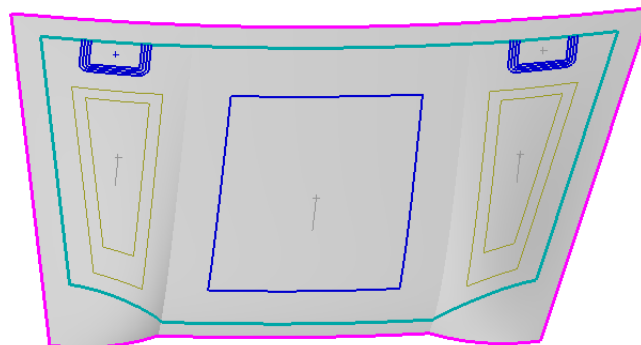

Figure 8–2
1. Open **DESIGN\_AND\_DOC\_A.prt**. The model displays as shown in Figure 8–2.
2. Show the **CROSS\_SECTION\_CURVE\_1** and **CROSS\_SECTION\_CURVE\_2** layer categories as shown in Figure 8–3. These curves determine where on the Tool Surface the cross-section will be created. The curves have been created on the Tool Surface. The Tool Surface is the skin for the Hood laminate on which the cross-section will be generated.